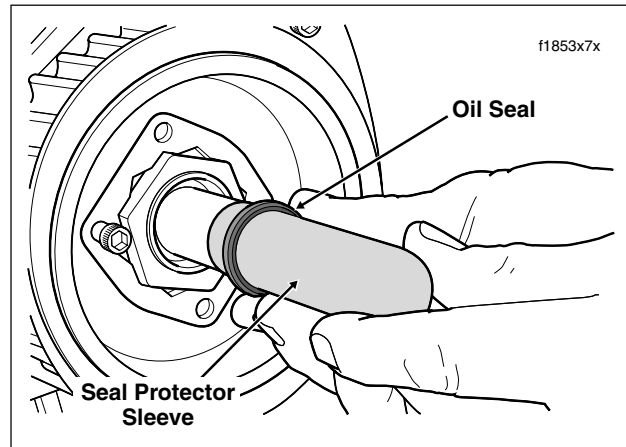

Figure 7-39. Slide Protector Sleeve/Oil Seal on Mainshaft
- c. Squarely seat the oil seal on the seal protector sleeve with the garter spring facing the transmission case. See Figure 7-39.